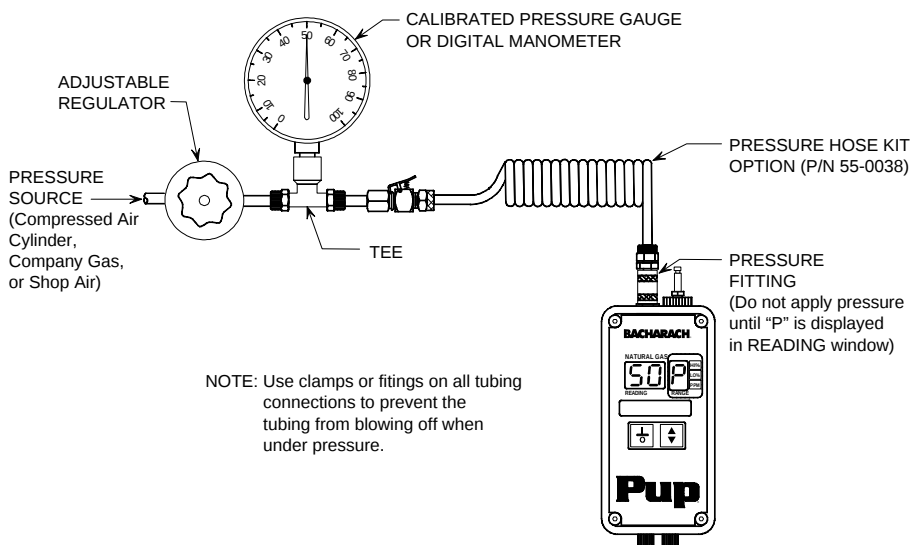

Figure 21. Pressure Testing the Sensor
1. Connect the above equipment as shown in Figure 21.